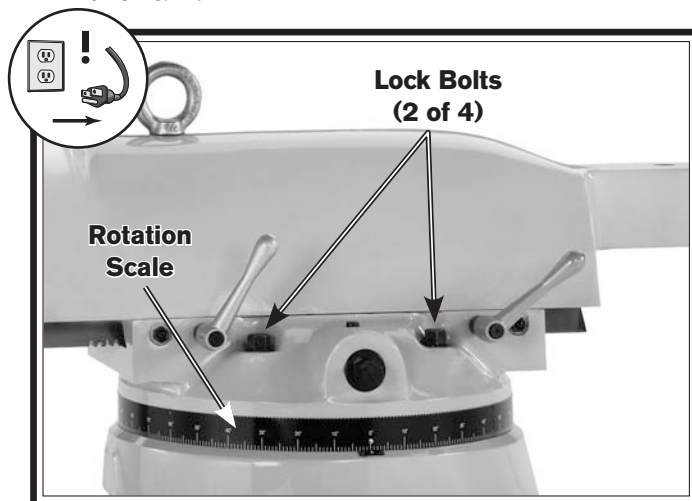

Figure 30. Ram rotating controls.
2. Loosen the four lock bolts on top of the turret (see **Figure 30**).